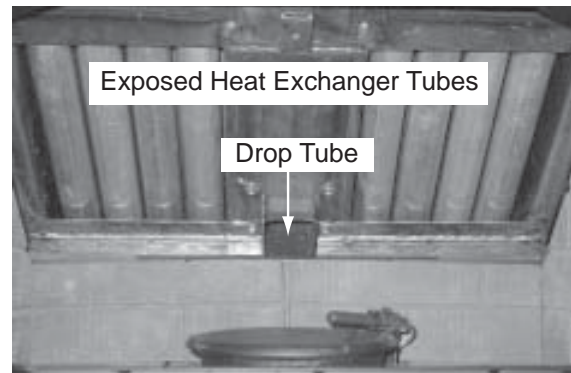

Figure 32.2
1. Use a Shop Vac to vacuum any fly ash and soot from the heat exchanger tubes and firebox area. **Figure 32.2.**